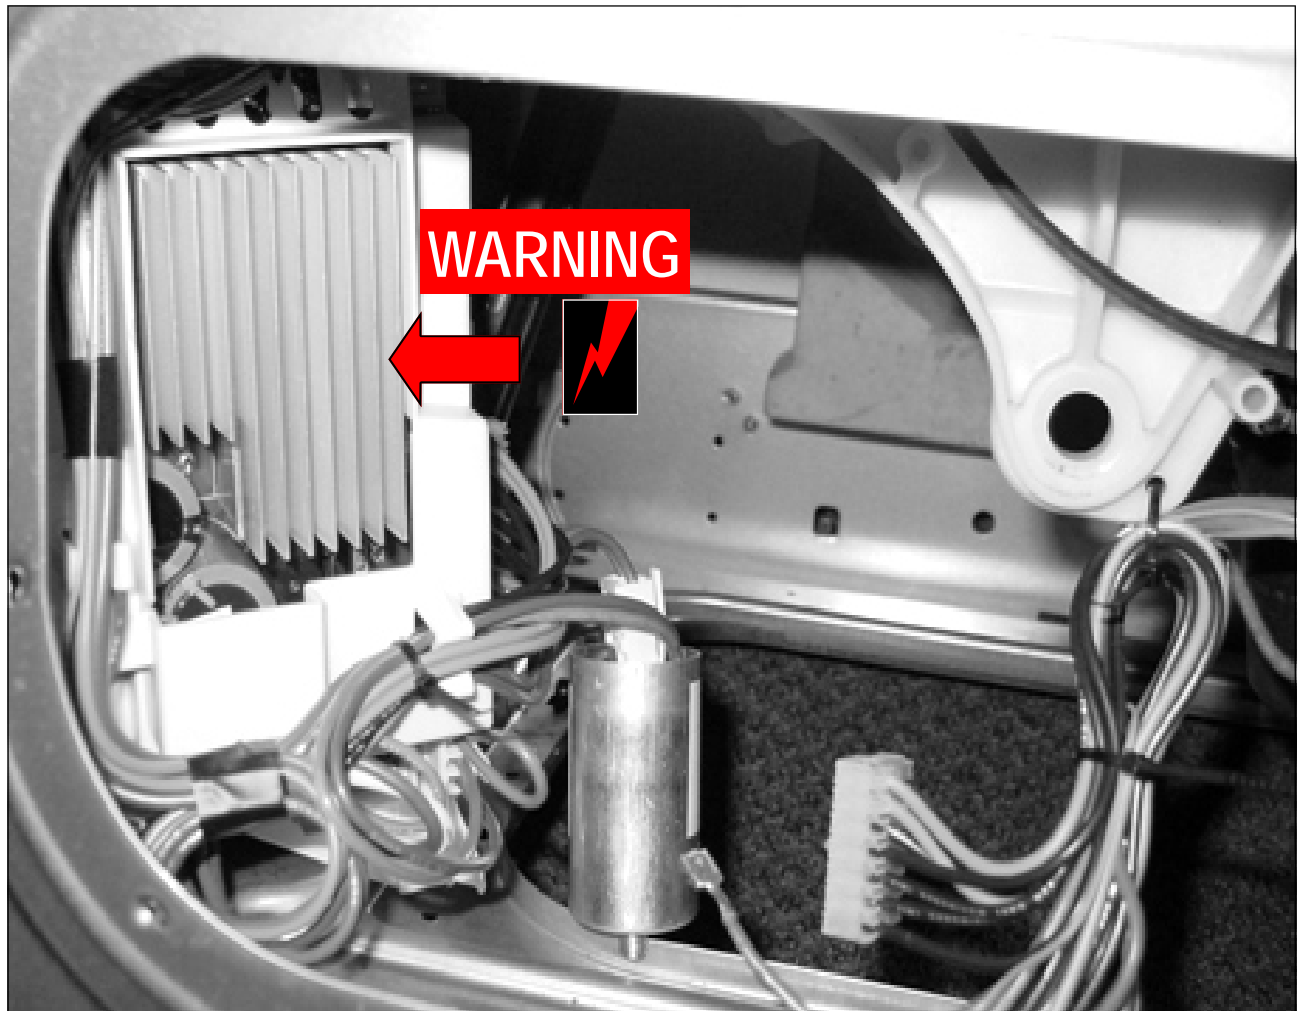

Fig. 10-2
- With the four Control Board mounting screws and the Capacitor Nut removed you can now carefully remove the individual wire connections from the Board, and then remove the Control Board from the unit (Fig. 10-2).